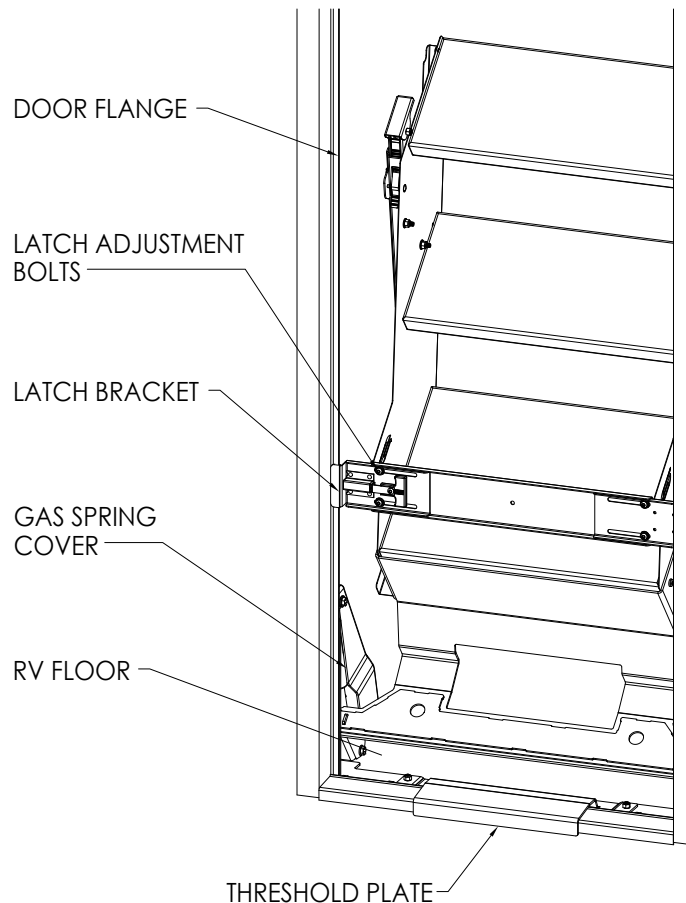

Figure 2
squareness. Install screws through outer slotted holes and into floor as shown in **Figure 2**, (screw position A). Installation of screws into slotted holes first allows for fine adjustment of staircase within the door width. It is recommended to drill a pilot hole using a 1/8" drill bit for all floor screws.
6. Double check that the stairs are centered within the doorway. Once satisfied with position, install screws in the inner slotted holes as shown in **Figure 2**, (screw position B). Do not overtighten screws.
8. Fully open the door(s) once again, lower the stairs, extend the legs (See **Operating Instructions**), and enter the RV to install the next few screws. Remove gas spring cover if not already removed. Install wall bracket screws as shown in **Figure 2**, (screw position C). Push threshold plate tight against the threshold and ensure an even gap exists between the sides of the threshold plate and main hinge plate. Lift stairs to the fully retracted position and secure threshold using screws through the two holes as shown in **Figure 2**, (screw position D). Be sure to maintain the position of the threshold cover during this step. Install the final mounting screw into the right mounting bracket (screw position E).